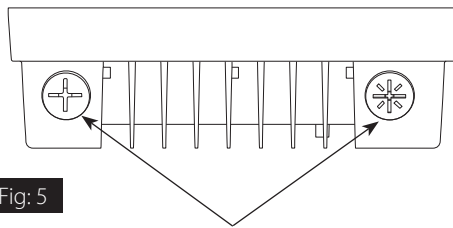

Fig: 5
1. Remove **Selector Switch Caps** by turning counterclockwise using a flat head screwdriver (Fig. 5).